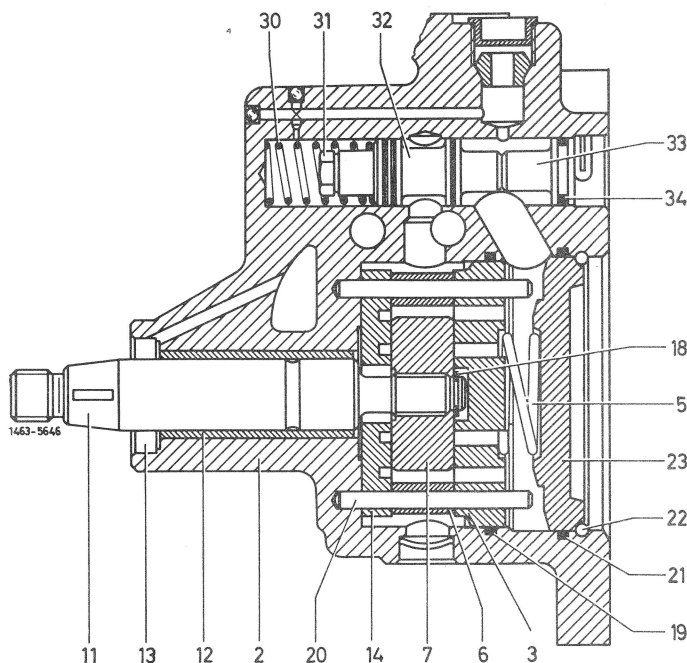

Fig. 1
3 Insert both cyl. pins (20) into pump housing, then insert preassembled drive shaft into housing (Fig. 1 and 3).
6 Insert O-ring (19) (Fig. 1 and 5), then thrust plate (3) into housing (2) (Fig. 1 and 6).
7 Insert O-ring (21) into housing. Place pressure spring (5) on pressure plate (3) (Fig. 1 and 7).
Note: O-rings (19) and (21) are of different diameter. The O-ring (19) with the small diameter seals the pressure plate (3), the larger O-ring (21) seals the cover (23) for housing (Fig. 1).